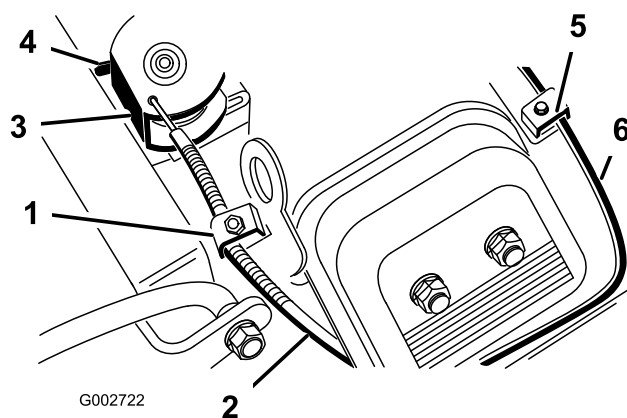

Figure 41
2. Loosen the throttle cable-clamp screw securing the cable to the engine (Figure 41).
4. Pull firmly on the throttle cable until the back of the swivel contacts the stop (Figure 41).
2. Loosen the choke cable-clamp screw securing the cable to the engine (Figure 41).
4. Pull firmly on the choke cable (Figure 41) until the choke butterfly is completely closed; then tighten the cable-clamp screw.